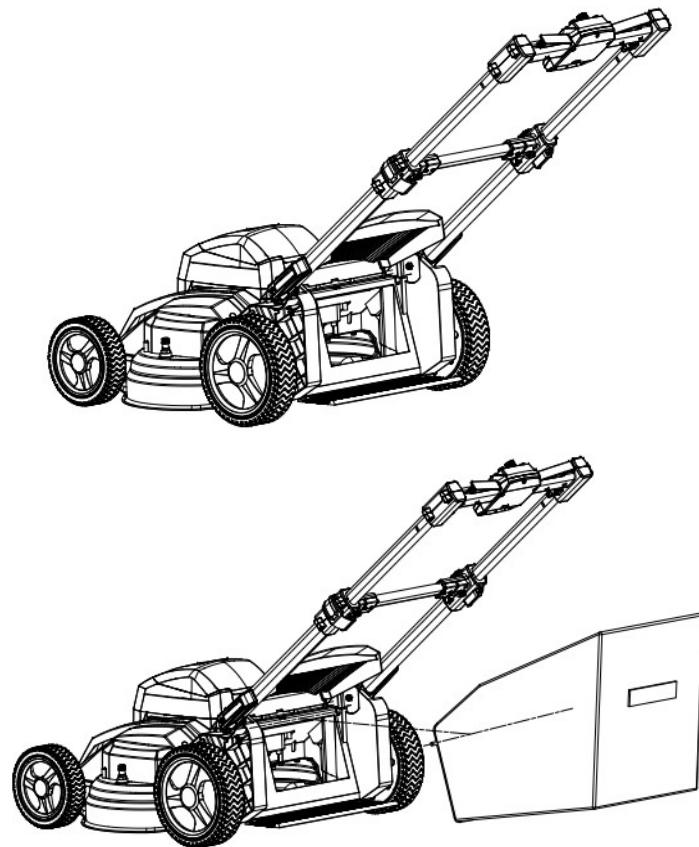

Figure 4
**INSTALLING THE GRASS CATCHER BAG (See Figure 4)**